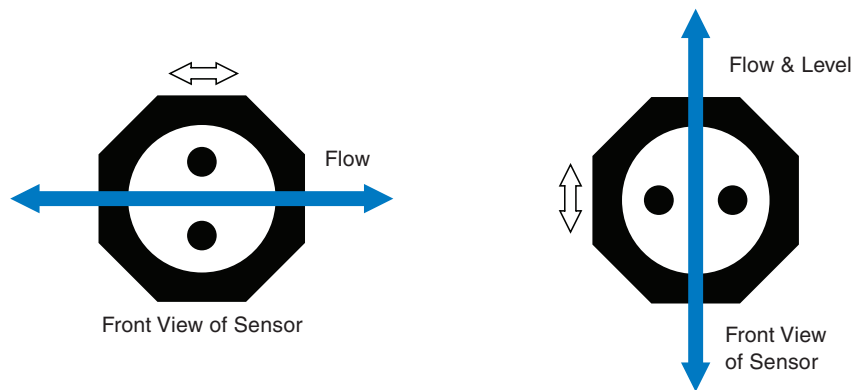

Figure 13 - Sensor Orientation for Horizontal Flow & Level
- To optimize the sensor’s performance, ensure the sensor is positioned as outlined below. As shown in Figure 13, ensure the **arrows etched on the sensor flats** (↔) are oriented parallel to the process flow. Blue arrows indicate the acceptable directions of the flow.